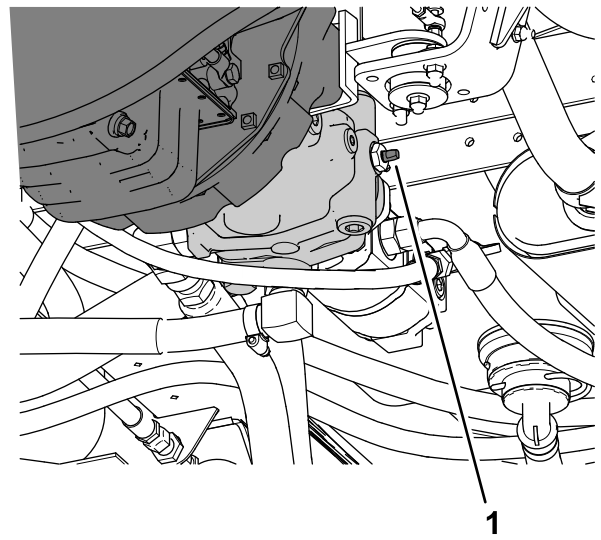

Figure 45
3. Rotate the tow valve (Figure 45) 90° in either direction to open the tow valve.